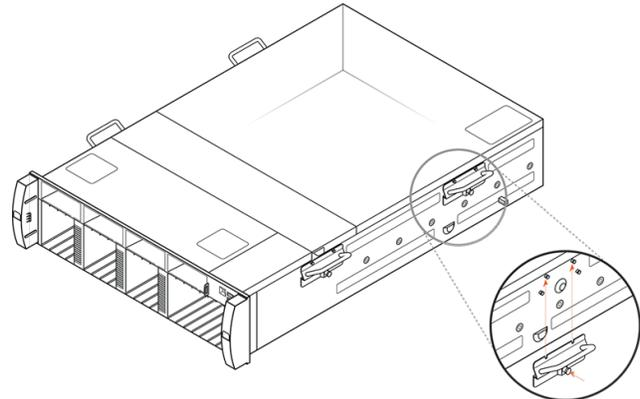

Figure 11-13. Installing Chassis Handles
1. Install all four chassis handles on the new chassis. Slide each handle onto the standoffs until the plunger latches into the mounting hole. See Figure 11-13.